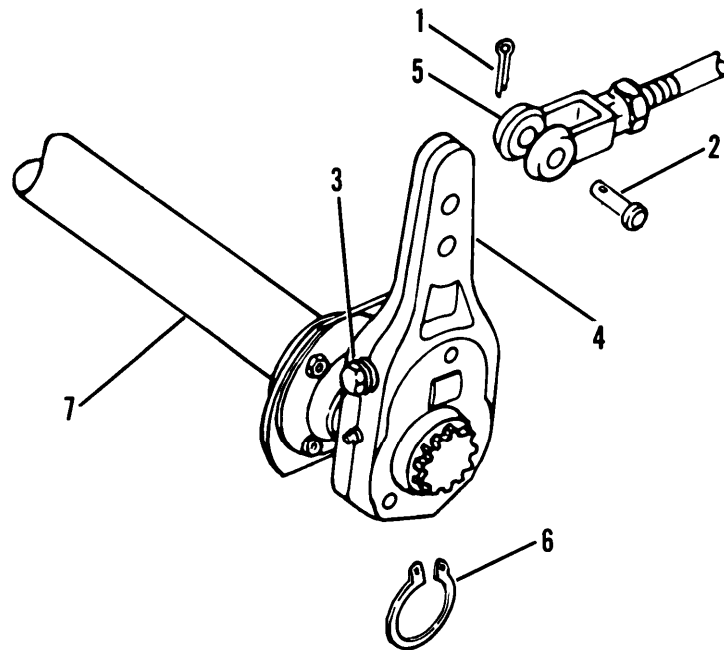

Figure 4-38. Slack Adjuster
- (1) Turn adjusting nut (3, fig. 4-38)) on slack adjuster (4) counterclockwise to release spring forces.
- (2) Remove cotter pin (1) and clevis pin (2).
- (3) Rotate the slack adjuster (4) out of the clevis (5) on the spring brake chamber.
- (4) Remove retaining ring (6) from end of camshaft (7).
- (5) Using hammer and suitable drift, tap slack adjuster (4) lightly until it comes off camshaft (7).
- (1) Clean splines of camshaft (7, fig. 4-38).
- (2) Place slack adjuster (4) in position on camshaft (7) and tap in place using a hammer.
- (3) Install retaining ring (6).
- (4) Rotate slack adjuster (4) into clevis (5).
- (5) Install clevis pin (2) and cotter pin (1).
- (6) Close drain cocks.
- (7) Adjust slack adjuster (para. 4-30).